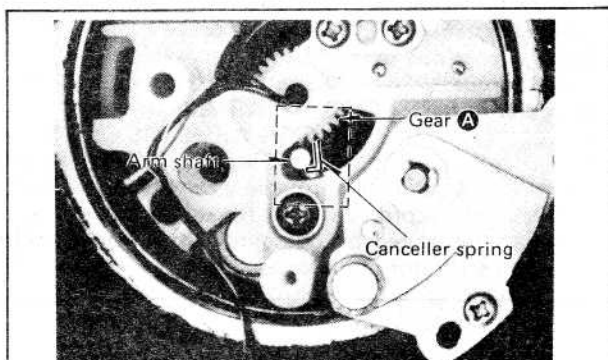

Fig. 16
If the arm body or PU base plate is replaced, be sure to set the canceller knob to "0.5" and make sure that the canceller spring is in contact with the arm shaft. (See Fig. 16) If the canceller spring is deflected, adjust it as follows:
3. Remove the PU base plate, adjust gear A so that the canceller spring is in the position of Fig. 16.